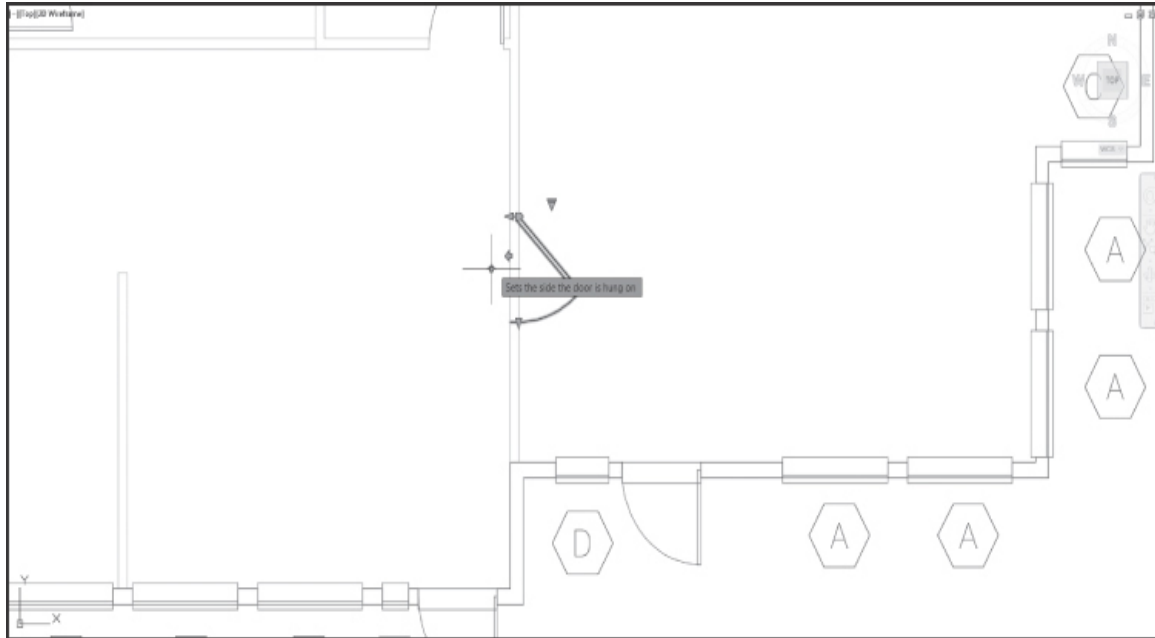

Figure 16-71
Using the **Flip Arrow** grip, you can mirror the door about the center of the opening either horizontally or vertically as shown in Figure 16-71.
- 3 Select the **Alignment** grip, and align the door with the vertical wall by dragging it with your mouse close to the wall until the block rotates 90° and is aligned with the wall as shown in Figure 16-71. Select a point to locate the door on the wall.
- 7 Select the vertical **Flip Arrow** grip, and mirror the door horizontally as shown in Figure 16-71.